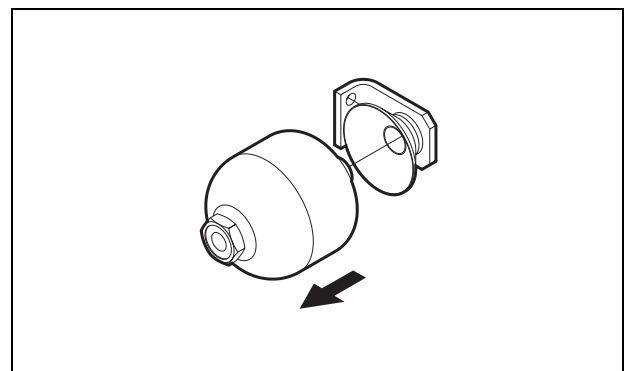

Fig. 39 Remove the accumulator
5. Remove the accumulator from the accumulator bracket. See Fig. 39.